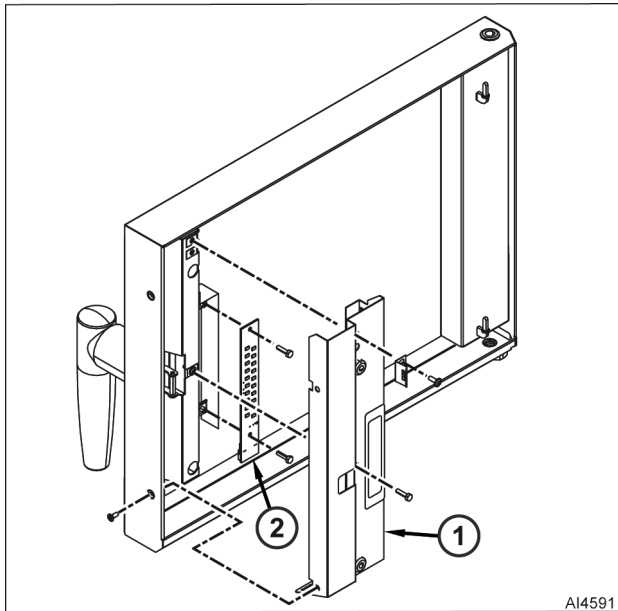

Fig. 37
3. Remove screws and inner panel (1, Fig. 37).
4. Remove screws and LED strip (2, Fig. 37) from door.